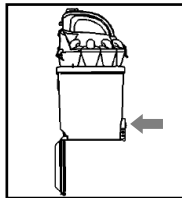

Fig. 5
- To empty the tank press the opening clip (  ) of the tank lid (Fig. 5) and it will open. Take care to place the container on top of the garbage can or a bag before opening the lid.